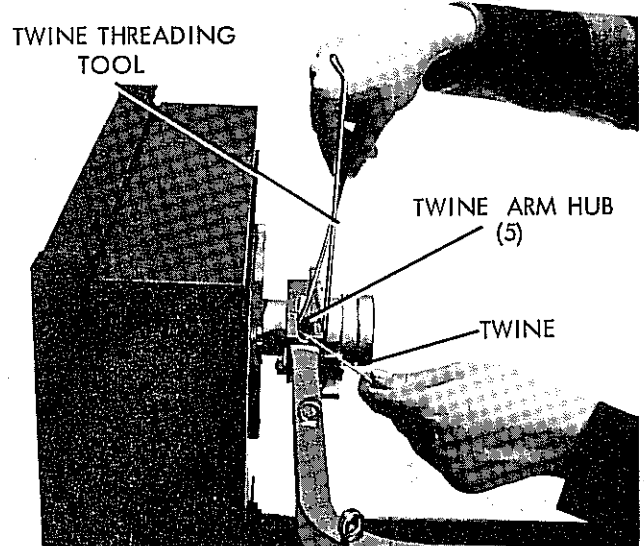
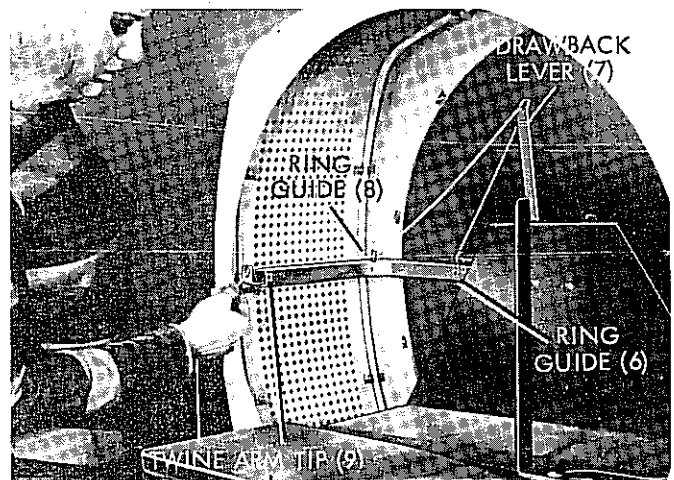
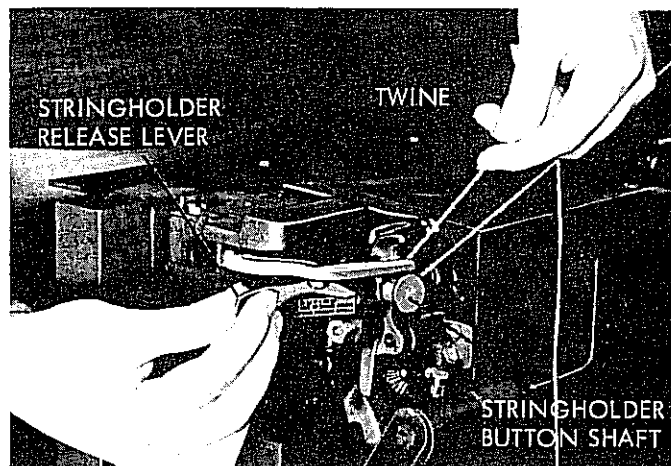
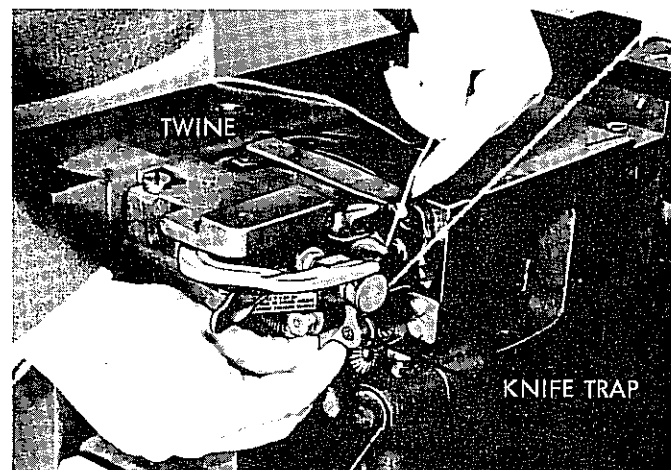

Figure 18. Threading Twine Arm Hub
Figure 19. Threading Twine Arm Ring Guides, Drawback Lever, and Tip
Figure 20. Threading Stringholder Shaft
Figure 21. Cutting Off Excess Twine
1. Observe that twine has been threaded from stringholder button (figure 20), through twine arm assembly tip, drawback lever, and guide rings (figure 19), twine arm hub (figure 18), tension spring (figure 15), and is lying loose in twine container (figure 13).
11. Using twine threading tool (or similar object), fish twine out of twine arm hub slot labeled no. 5 (figure 18). Thread twine through ring guide labeled no. 6, up through backside of drawback lever slot labeled no. 7, down through ring guide labeled no. 8 at bend in twine arm, and through twine arm tip labeled no. 9 (figure 19).
12. Using left hand, pull twine over to right side of tying machine and press back stringholder release lever. Place twine under stringholder button shaft labeled no. 10, pull up and over shaft and release stringholder release lever (figure 20). Pull twine taut and press knife trap toward front of tying machine (figure 21) to cut off excess twine.